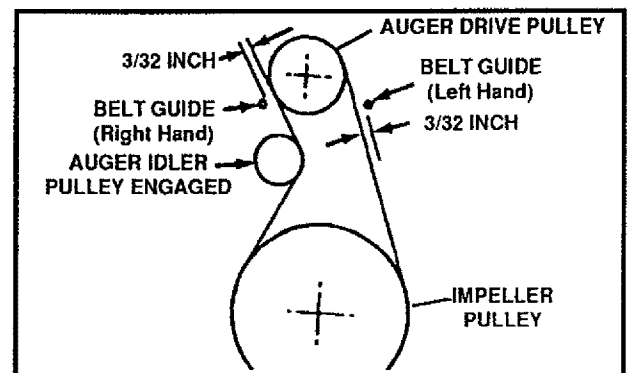

FIG. 6
- Measure the distance between the belt guides and the belt (See FIG. 6). The distance should be  $\frac{3}{32}$ " for each guide.